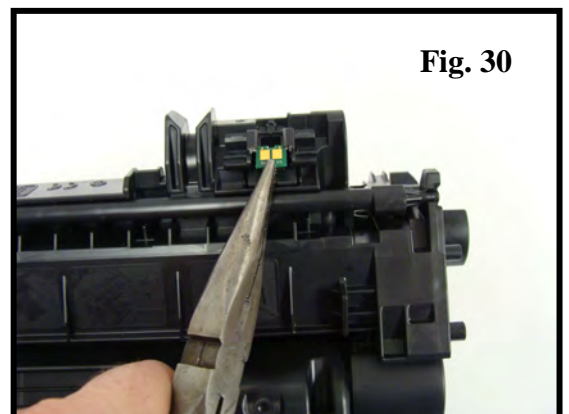

Fig. 30
30. Remove the old chip (Fig. 30). Install a new chip and secure with a small amount of adhesive on the ends that were removed on the chip housing.